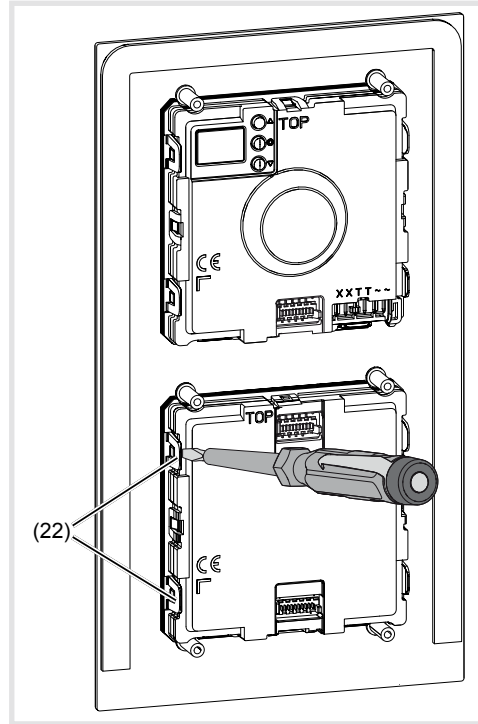

Figure 17: Unlatching module
(20) Screws
(21) Module mounting
- To remove the call push-button module, unlatch the side retaining brackets (22) of the module mounting by carefully lifting up with a screwdriver (Figure 17).